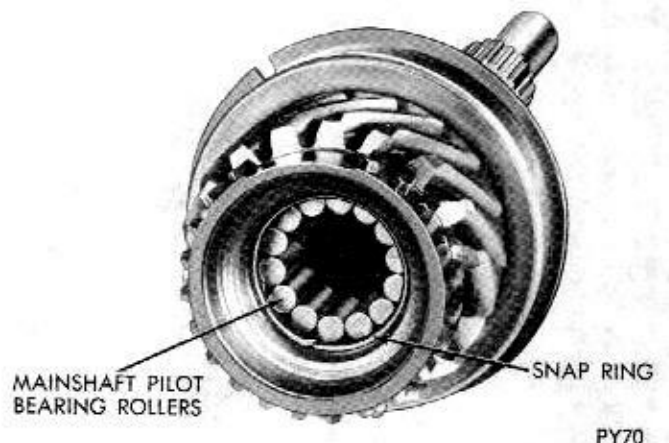

Fig. 19—Mainshaft Pilot Bearing in End of Drive Pinion
(5) Remove snap ring and bearing rollers from cavity in end of drive pinion (Fig. 19).